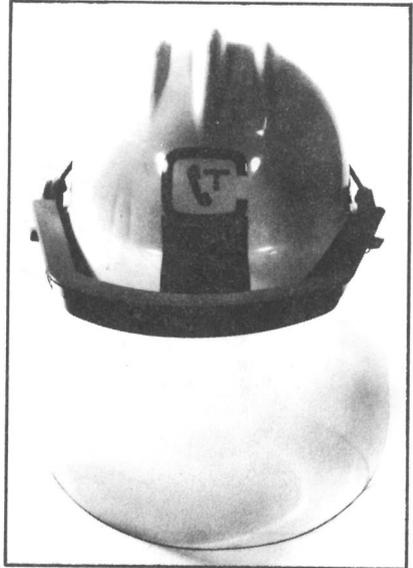

FIGURE 9
2.06 The safety cap can be worn with a dielectric bracket and visor which are accessory items. When used with safety headgear, this combination gives face-eye protection as illustrated in Figures 9 and 10 for protection against impact.